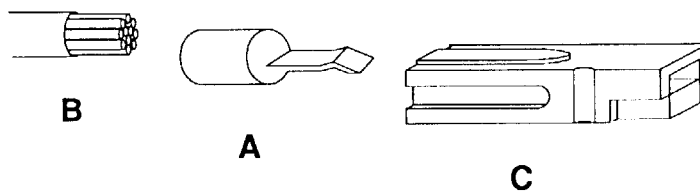

Figure 2.7 - Quick-Disconnect Diagram
6. For units equipped with optional Quick-Disconnect (QD) connectors, use the following procedure to install connectors on cables.
Crimp the QUICK- DISCONNECT (QD) lug (Item A) on the cable (Item B) and install the QD housing (Item C) as shown in Fig. 2.7, below. Be sure to install the red QD connector on the wire with the marked red tape and the black QD on the other wire. Do not connect the harness to the inverter at this time.